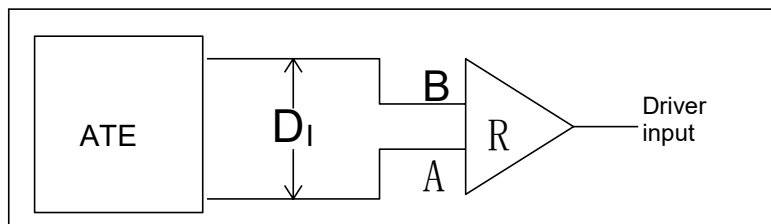

Figure 4 Receiver Propagation Delay Test Circuit
- Test circuit diagrams see Figure 4